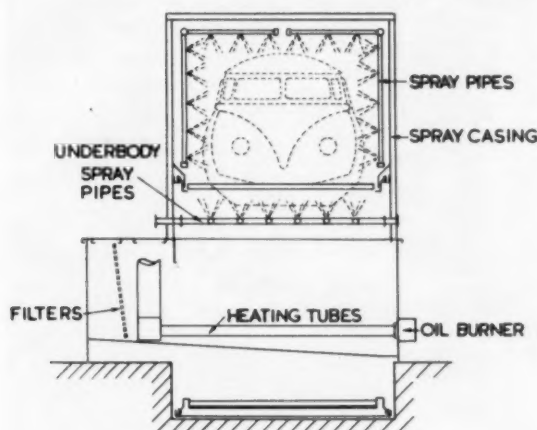
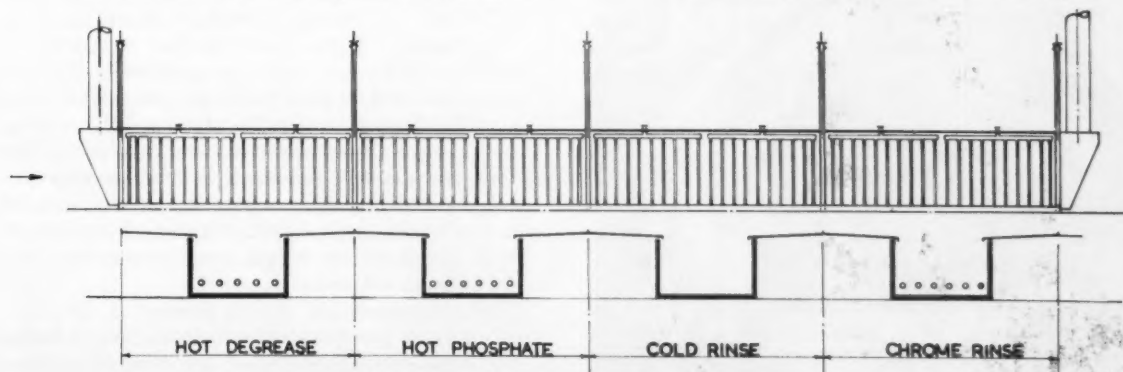

Fig. 4. Spray Phosphating Operation.
Fig. 5. Spray phosphating plant. Side elevation of spray phosphating operation.
The change in mechanical properties of springs with increased thickness of zinc deposits from sulfate and cyanide electrolytes is shown in Fig. 4.
- (2) Loading deck.
- (3) Alkali degrease (spray) at 160°F.
- (4) Cold rinse (spray).
- (5) Spray phosphate at 140°F., shown in cross-section in Figure 4 and side elevation in Figure 5.
- (6) Hot rinse with 1/20 per cent chromic acid at 130°F. (spray).
- (7) Blow-off station.